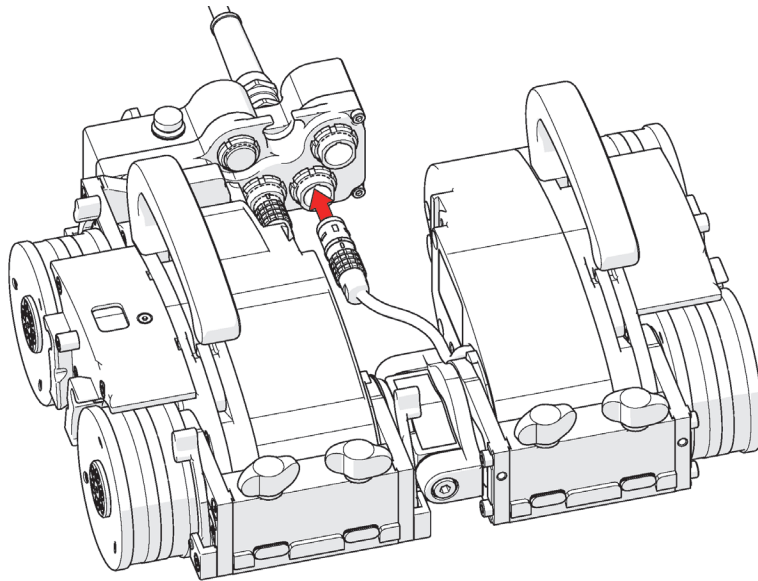

Figure 2-27 Connecting the left drive module to the umbilical
- ◆ Connect the cord of the left drive module to the 8-pin connector of the umbilical indicated in Figure 2-27 on page 67. For a detailed view of the umbilical connections, see “Umbilical” on page 73.